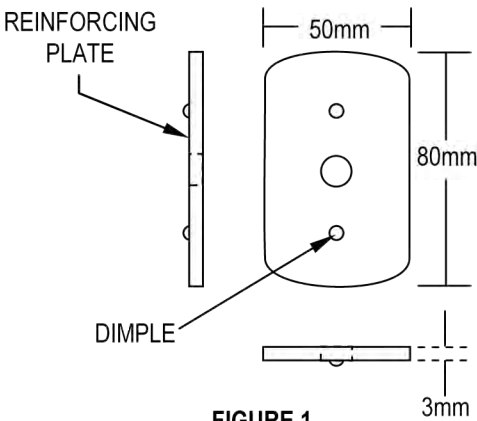

FIGURE 1
- Reinforcing plate measures approximately (W) 50mm x (H) 80mm x (T) 3mm. as shown in Fig.1.